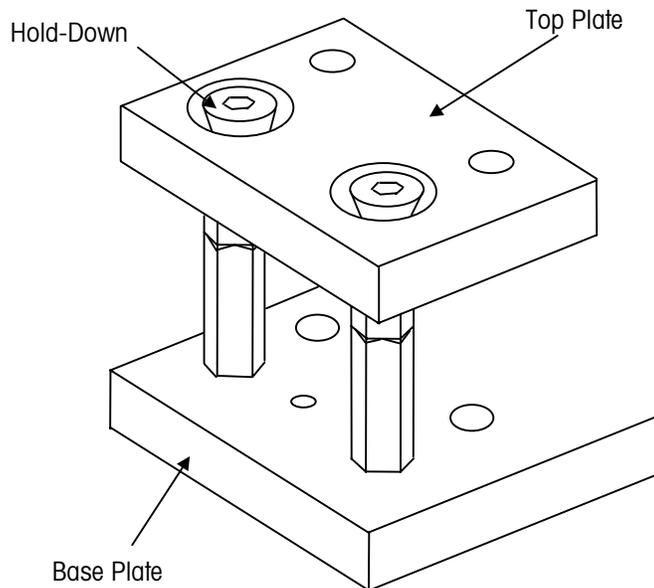
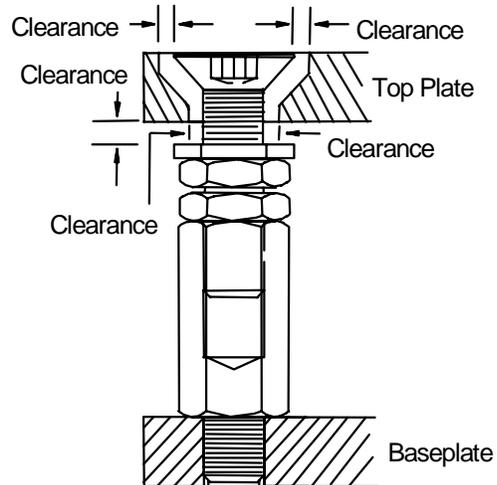

Figure 9-7: Hold-Down Bolt Assembly
Figure 9-8: Hold-Down Bolt Assembly (Cross Section)
7. After all the top plates are down and applying load to the load cells, make sure there is adequate clearance between the hold-down bolts and retaining holes. See Figure 9-7 and Figure 9-8.